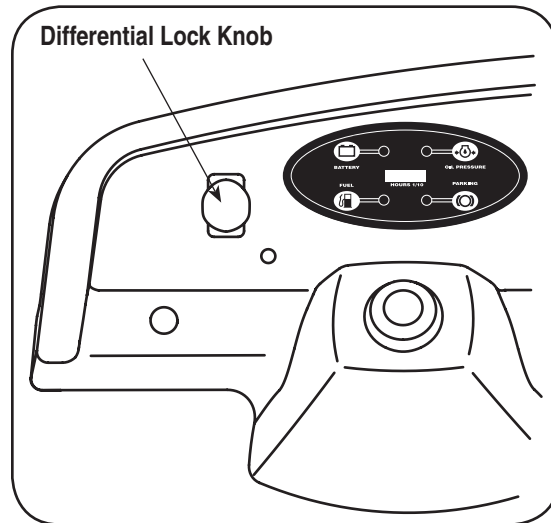

Figure 13
The Differential Lock Switch is located on the left side of the dash panel. See Figure 13.
2. Empty cargo by hand and unlatch cargo box by pushing down on the cargo latch. See (A) Figure 13.
3. While holding the latch down, lift the cargo box (B).